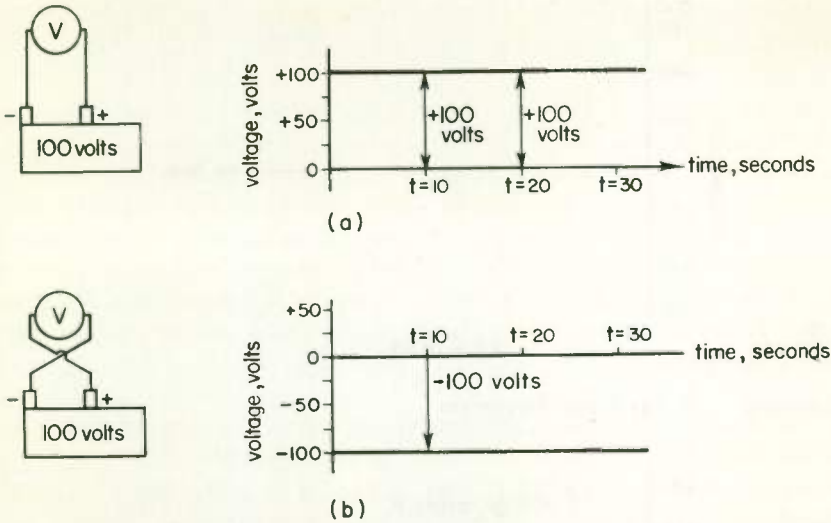

Fig. 1 Graphs of a d-c voltage of 100 volts.
- 1 GRAPHING VOLTAGES . . . To understand the d-c and a-c voltages and currents which are encountered in electronic work, you must first understand how graphs are used to show these quantities. As you know, a d-c voltage is the kind of voltage you obtain from a battery —its value is constant and does not change with time. Figure 1(a) shows a graph of the readings of a voltmeter connected to a 100-volt battery.
d-c voltage is always a straight line, since no matter at which time you look at the voltage, the voltage is the same. If the battery terminals are now reversed, the voltage being measured is negative. To indicate this reversal in polarity, the value of the voltage is drawn beneath the time axis, as shown in Fig. 1(b).
1. The 100-volt battery of Fig. 1(a) is replaced by a 50-volt battery. To indicate this reduction in voltage, you would make the graph of the voltage _____ as far from the time axis as it is now.